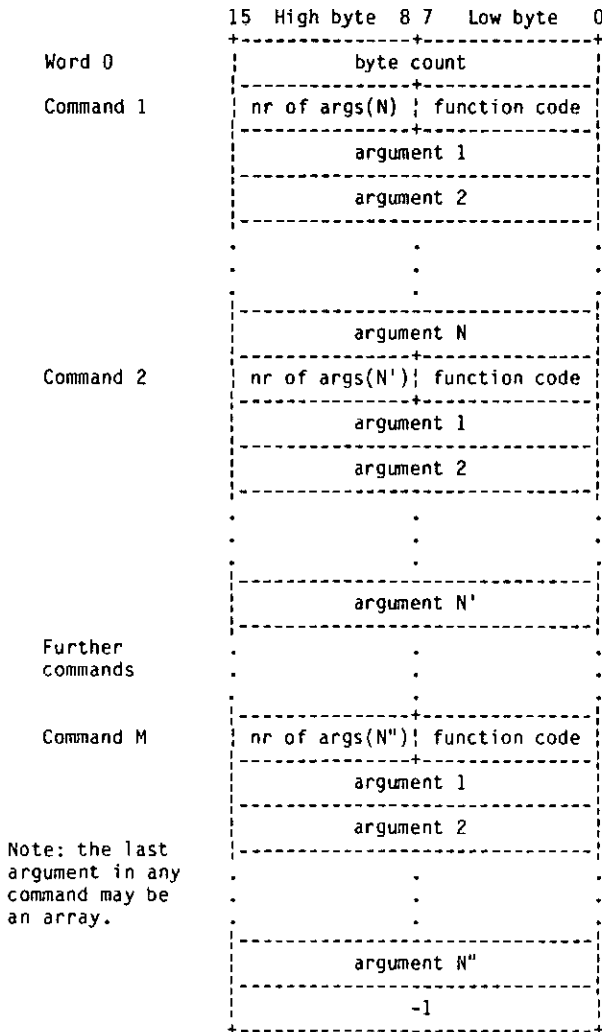

Figure 5.1 General structure of command block
In general a CB contains several "records", each record being one command. The overall structure of a CB is shown in Fig 5.1. The block contains 1 or more commands, each command containing a number of arguments. The maximum number of arguments for any one command at present is 18, but this is not a fixed limit. Some commands may have array arguments, so the number of arguments is not necessarily the number of words in the argument list.
- o No terminator is found at the end of the block (defined by the byte count in the first word of the CB - see Figure 5.1). An error is reported if no previous error has occurred.
After termination, the status of the request (zero = success) is placed in bits (0:5) of the Host Command & Status Register (HCSR), from where it is read by the host DMA driver. If an error did occur the command executor will, at the time of the error, have stored some specific status information in the top word of the command block, overwriting the byte count already there (see Figure 5.1). This information is the offset (bytes) from the start of the CB to the start of the command in which the error occurred. If the CB is subsequently re-executed unchanged, therefore, execution will stop before the command which generated the original error, and the error "invalid command block" will be produced.